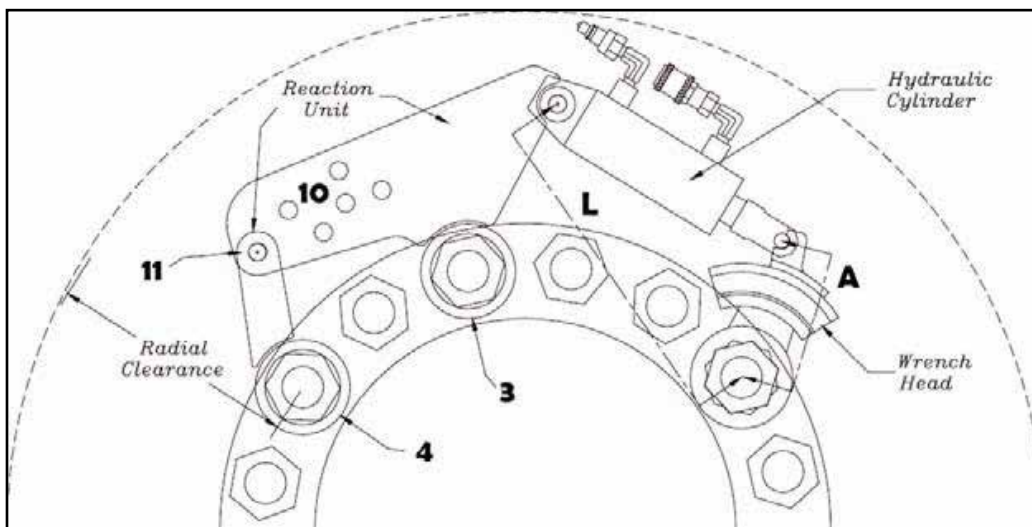

Figure 7
5. Measure the distance (A) of the wrench arm. This distance is 6" on a Series 200-6 (Figure 7).